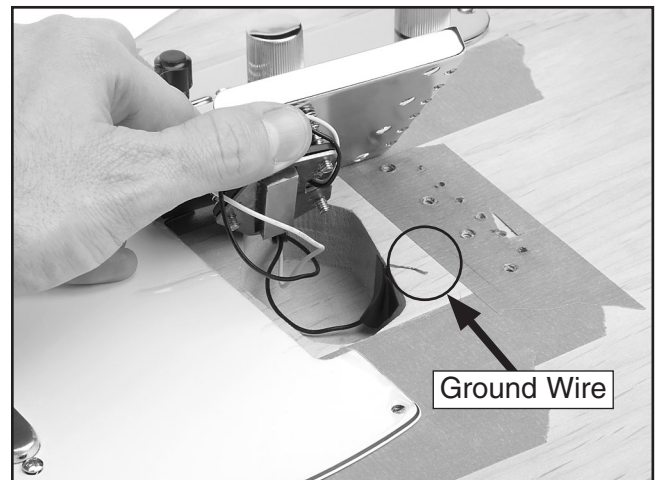

Figure 23. Ground wire above bridge cavity.
1. Place the exposed end of the ground wire above the bridge cavity (see **Figure 23**), and place the bridge over it so the bridge and wire make contact.